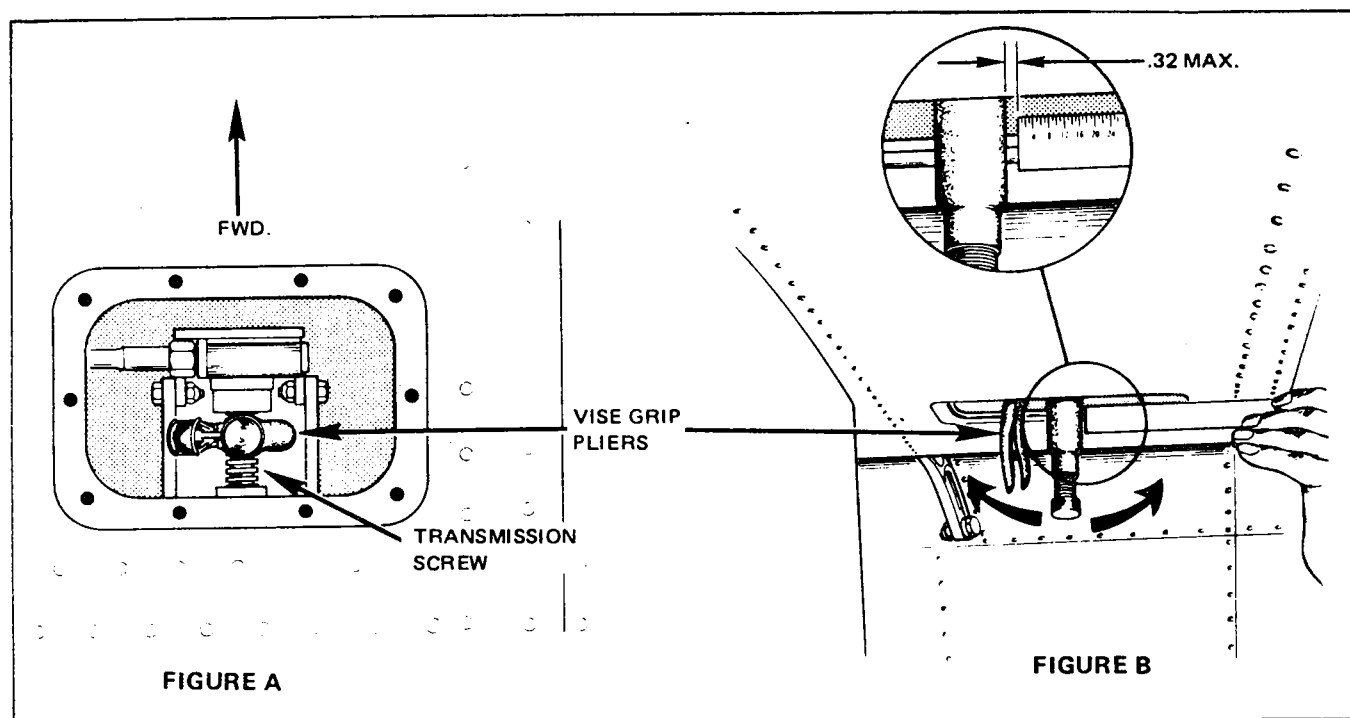

Figure 1. Wing Flap Transmission Inspection
1. INSPECTION OF WING FLAP TRANSMISSION. (Refer to Figure 1, Page 3.) The flap transmissions are inspected at every 100 hour inspection cycle of the aircraft. This is accomplished without removal of the transmissions, by the following procedures:
- c. With the use of vise grip pliers and exerting light pressure, grasp the exposed portion of the screw close to the transmission as shown. (Refer to Figure 1, Views A and B).
- e. Place a six inch ruler along the skin surface as shown in Figure 1, below, View B, and measure the overall distance the pliers move.